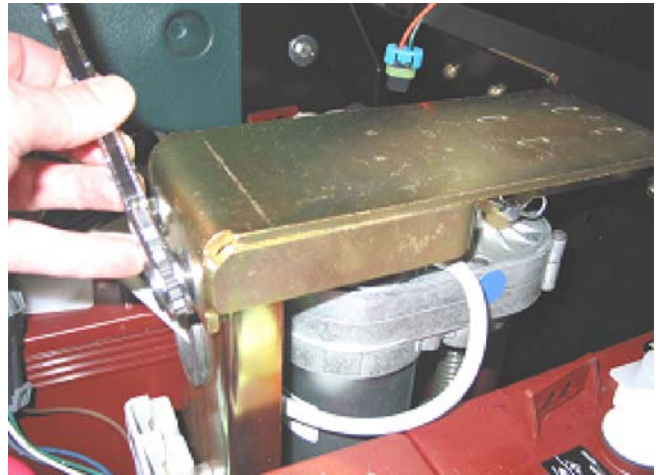

FIG. 7
9. Remove the four bolts holding the plate in place. (Fig. 7)